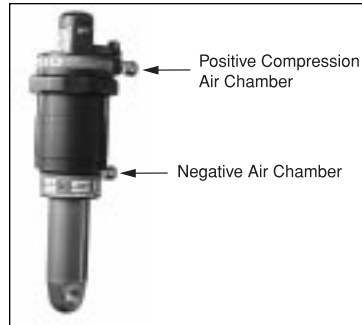

Fig. 1
The air pressure you run in the shock varies depending on weight and riding style. Air pressure can be changed in either the positive or negative air chamber (see fig. 1). The following sections will explain the differences between the positive and negative air pressure as well as how to adjust both features.
The valve on the large diameter of the shock is for positive air pressure (fig. 1). Adjusting positive air pressure determines the spring rate or stiffness of the shock. The more air you put in, the firmer your shock will get.
1. Locate the positive (compression) air valve (fig. 1).
The negative air valve (fig. 1) sets the characteristics (feel) of your bike. You may change the air pressure for the negative spring using a hand pump.